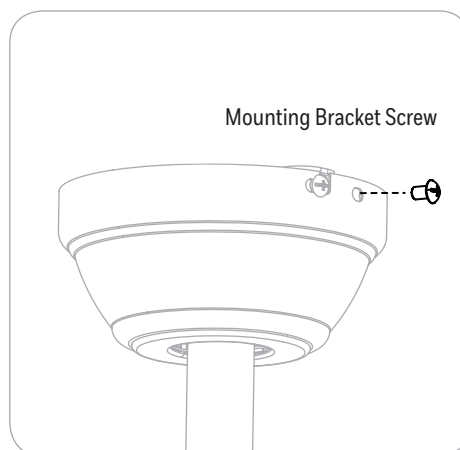

Figure 2.11
11. Align the canopy over the loosened mounting bracket screws. Place the J-slot of the canopy onto the mount bracket screws and rotate clockwise. Secure the canopy with the two previously removed mounting bracket screws. Tighten all the mounting bracket screws securely (Figure 2.11).